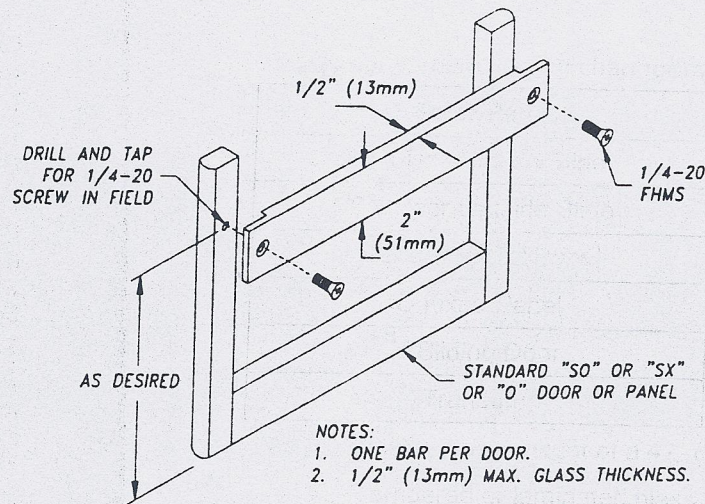

FIGURE 19: Bumper Bar Installation
- Refer to the following illustration for Dor-O-Matic bumper bar installation (Figure 19).